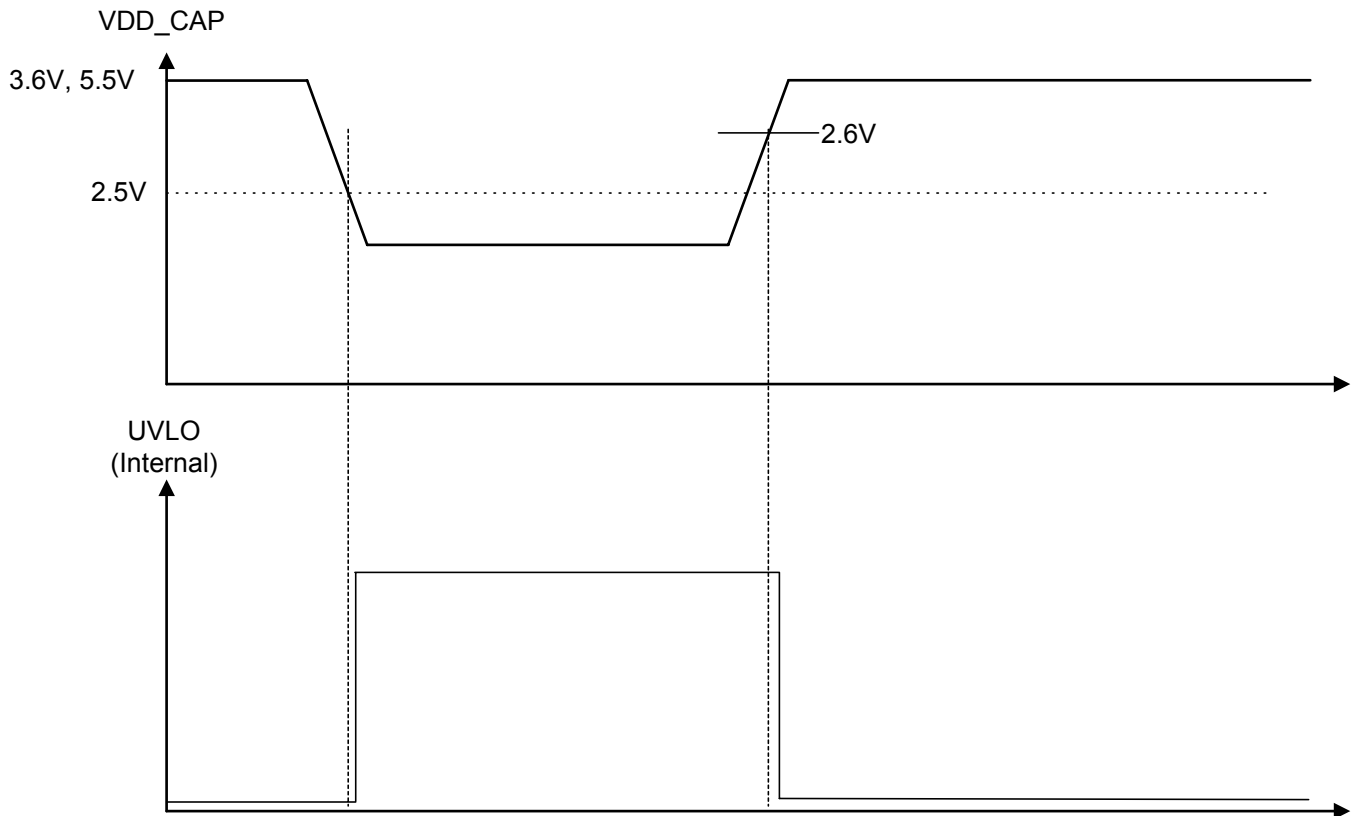

Figure 10 - Timing Sequence recovering from a VDD_CAP Power 'Brown-Out'
2.5V (Figure 10), an internal undervoltage lockout (UVLO) circuit will reset all internal logic. Once power has recovered above 2.6V the SMM764 will restart as if a Command-Triggered power-off had been issued.